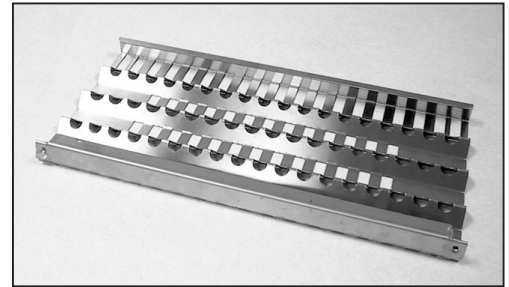

FIG.12
1. Unpack ceramic rods and remove radiant (Fig. 12) from the unit.